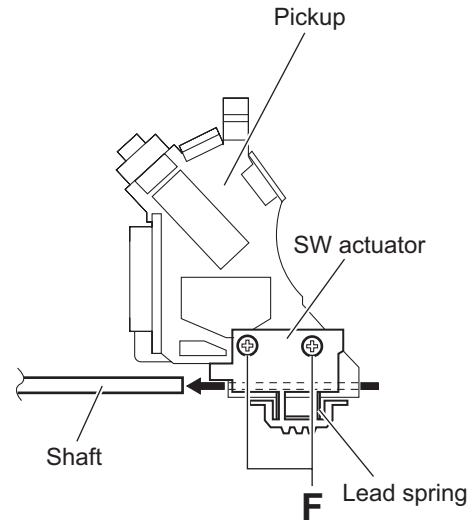

Fig.8
- (8) From the bottom side of the pickup, remove the two screws **F** attaching the SW actuator and lead spring. (See Fig.8.)
- (9) Pull the shaft out of the pickup. (See Fig.8.)
(See Fig.8.)